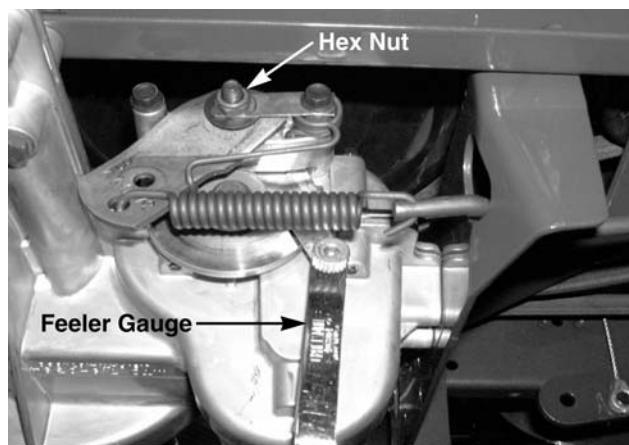

Figure 9-14.
3. Slide an .011" feeler gauge between the brake disc and the brake puck. See figure 9-14.